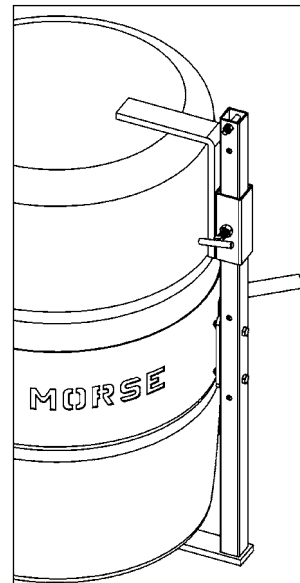

Figure 2.1
- The **Bracket Assembly** (Part # 4556-P) is **required** to handle a plastic drum without a top rim (see figure 2.1). It is also recommended to more securely handle a fiber drum. You can use the Bracket Assembly with a 55-gallon plastic, steel or fiber drum. The brace at top and bottom of the drum prevent it from slipping lengthways through the drum holder. It adjusts for a drum 31" to 39" tall.